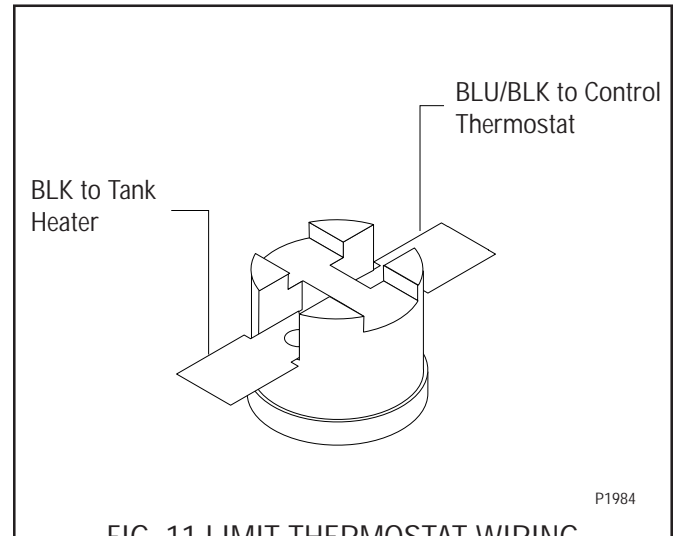

FIG. 11 LIMIT THERMOSTAT WIRING
4. Refer to FIG. 11 when reconnecting the wires.